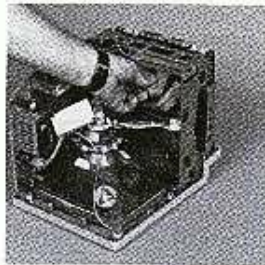

Figure 3-4
- a. Disconnect the cables from the main logic board. (See Figure 3-4. (The speaker cable is connected to the rear of the board.)